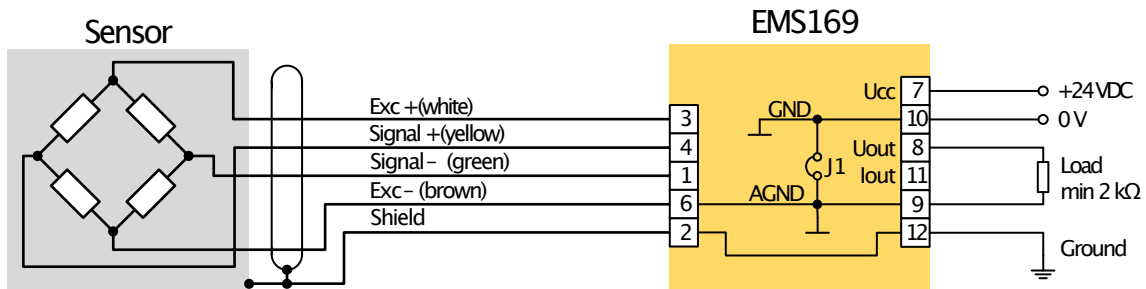
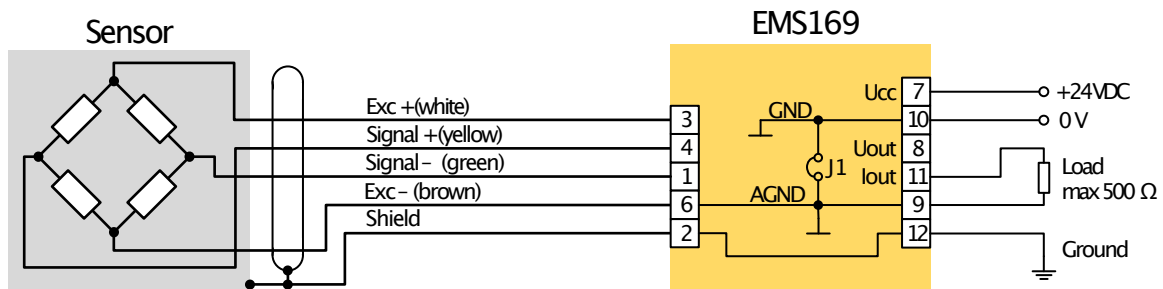

Fig. 3. Wiring diagram, voltage output.
Fig. 4. Wiring diagram, current output.
The EMS169 has two outputs: voltage and current. Depending on which output is used, connect the module according to fig. 3 (voltage output) or fig. 4 (current output). It is also possible to use both outputs simultaneously, however with the trimmer „ZERO“ (or „GAIN“) it is possible to adjust just one output only.
1. Configure the EMS169 (J2 = J3 = ON, J4: 2 – 3 is ON) and connect it according to fig. 4.